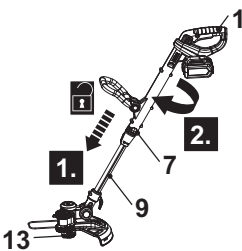

Fig. 9
2. Pull the lower pole (9) out or push it together to adjust the desired length (Fig. 9, step 2).
1. Slide the unlock button (7) downward and turn the main handle (1) clockwise while holding lower pole (9) to adjust the trimmer head (13) to an angle of 90° or 180° (Fig. 9). Release the unlock button (7) and keep turning the main handle (1) until it locks in place. Ensure the unlock button (7) snaps into place.